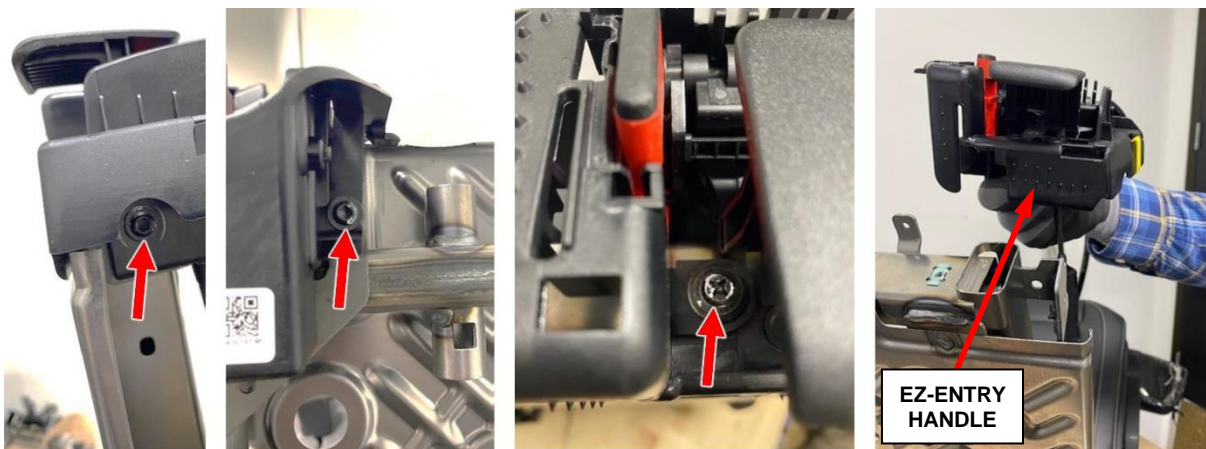

Figure 37 – EZ-Entry Handle
- 42. Remove the three screws that secure the EZ-Entry handle to the seat back frame (Figure 37).
- 43. Remove the EZ-Entry handle from the seat back frame (Figure 37).
62. Position the EZ-Entry handle to the seat back frame then install and tighten the three screws that secure the EZ-Entry handle to the seat back frame (Figure 37).